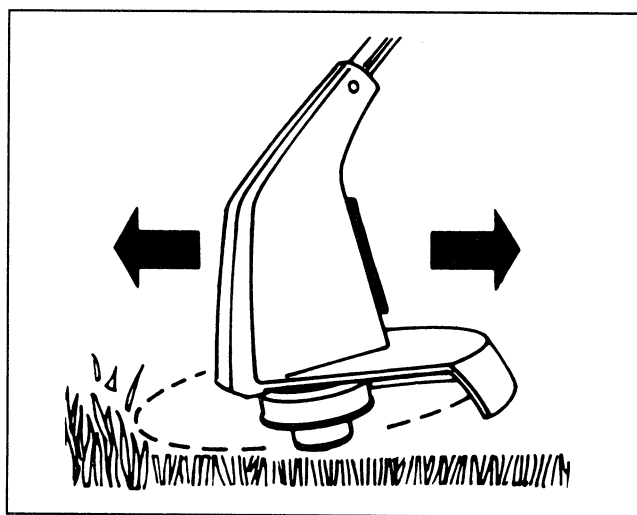

Figure 11
1. Hold the power pack case in a position which slightly tips cutting head down at an angle to the grass to be trimmed as shown in Figure 11.
ward or side-to-side motion (Figs. 11 & 12). Maintain top speed for best cutting.